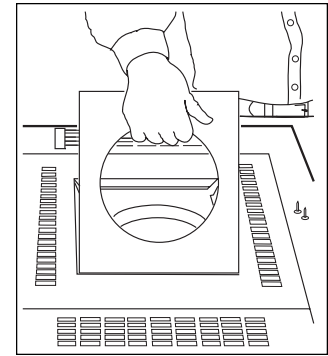

Figure 3. Adapter plate.
- b. Remove the two screws attaching the adapter plate to the top assembly and lift it out (see Figure 3).